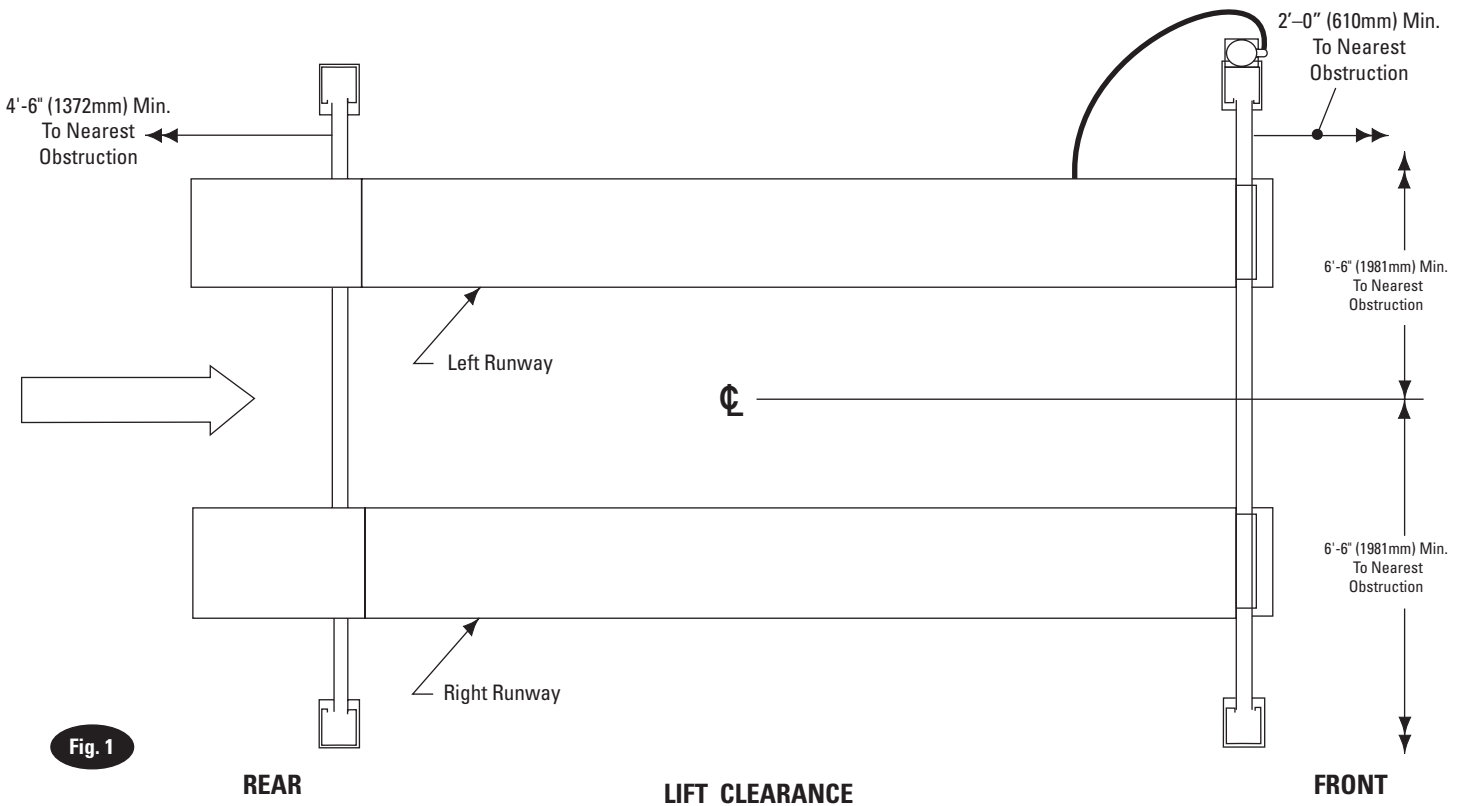
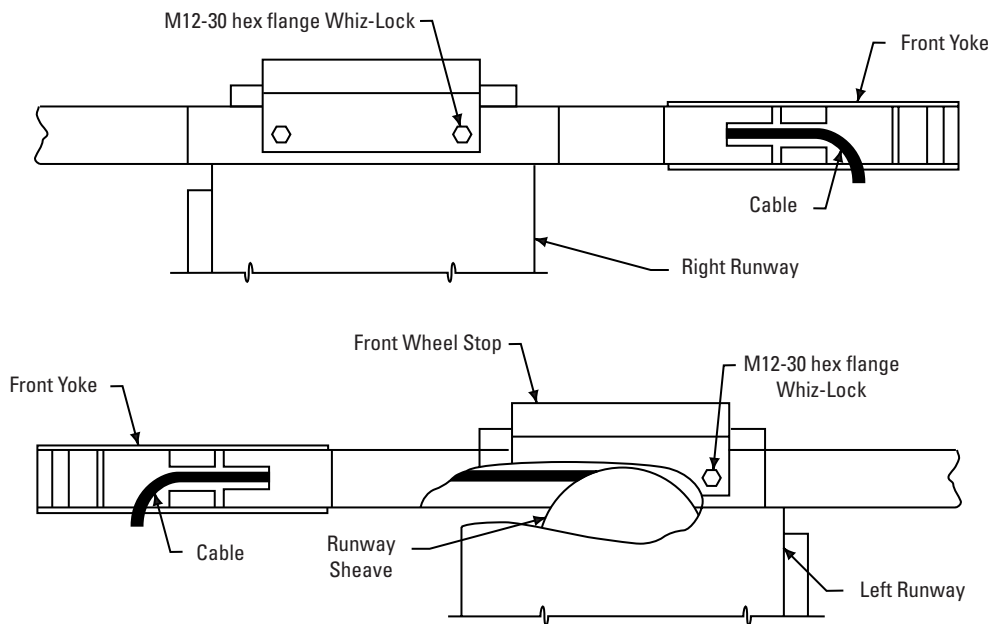

Fig. 1
Fig. 4
1. Lift Location: Use architects plan when available to locate lift. Fig. 1 shows dimensions of a typical bay layout. For power unit at right front, rotate lift 180°, leaving ramp/chocks and wheel stops in original position. Lift floor area should be level.
- C. Position front and rear yokes at respective ends of runway, Fig. 1. The opening in the side of the yokes should be lined up with the cable sheaves in the runway ends. Feed cable ends through yoke openings, Fig. 4. Do not assemble sheaves in yoke ends at this time.
With the openings in the yoke tube side lined up with the left runway ends, align the two (2) holes in the top of the front yoke tube with the slots in the runway end plates and the holes in the front wheel stops. Bolt runway to the yoke using four M12-30 hex flange bolts, Fig. 4.